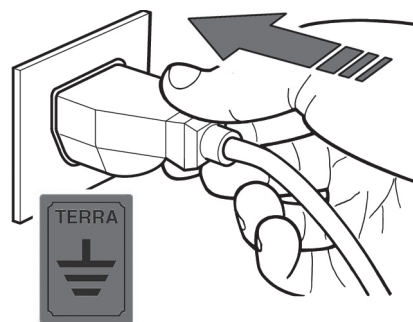

fig. 10
- It is imperative that the complete equipment is properly connected to an efficient earth connection (fig. 10).
- 2) Insert the power plug of the Showcase into the socket provided by the customer (fig. 10), making sure that it has earth contact and that there are no multiple sockets connected .